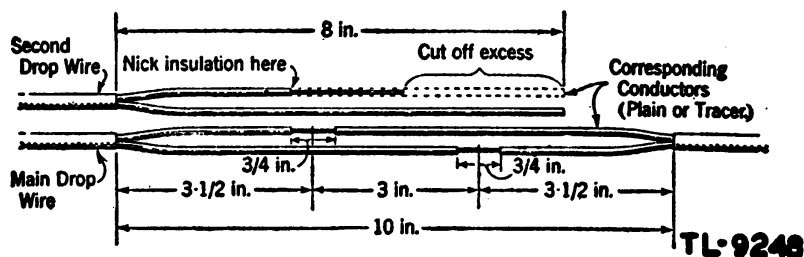

Figure 53. Parallel drop wire prepared for bridging.
(1) If parallel drop wire is used, prepare the wire as shown in figure 53.